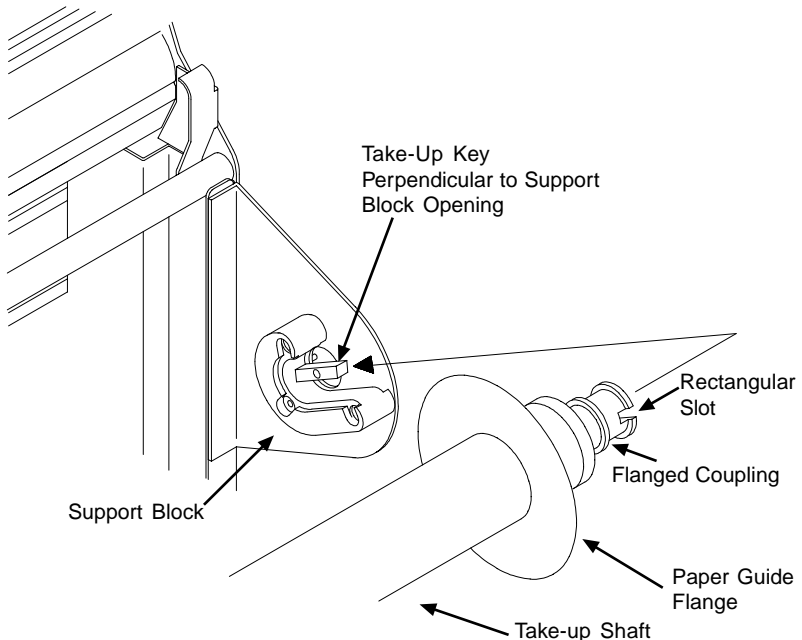

Figure 16. *Aligning the shaft slot and the take-up key.*
Warning: *Never touch the take-up key or flange coupling while they are rotating (see Figure 16). Serious personal injury could result.*
3. If rolling up more than 28 yards on the take-up shaft (model 600 only), install the paper guide flanges. See *Figure 16*.